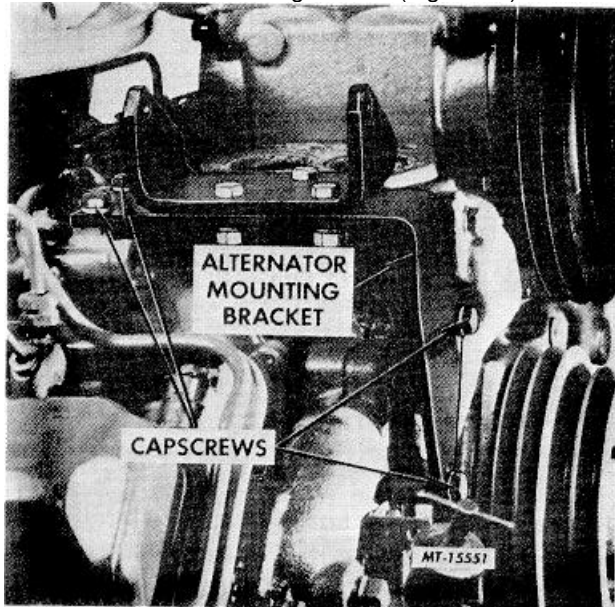

Fig. 26 Alternator Bracket Mounting Details
12. Remove four capscrews and lockwashers and remove alternator mounting bracket (Figure 26).